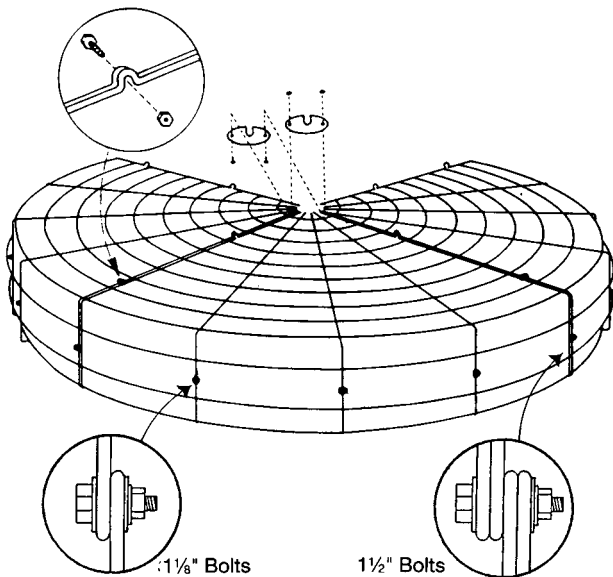

Figure 4 - Assemble Top Section
2. Place each of three guard top sections on top of matching bottom and bolt together using  $1\frac{1}{8}$ " and  $1\frac{1}{2}$ " bolts, washers, lockwashers and  $\frac{5}{16}$ " nuts. (At this time do not bolt the 2 top bolts closest to the center of the fan guard.) (See Figure 4)